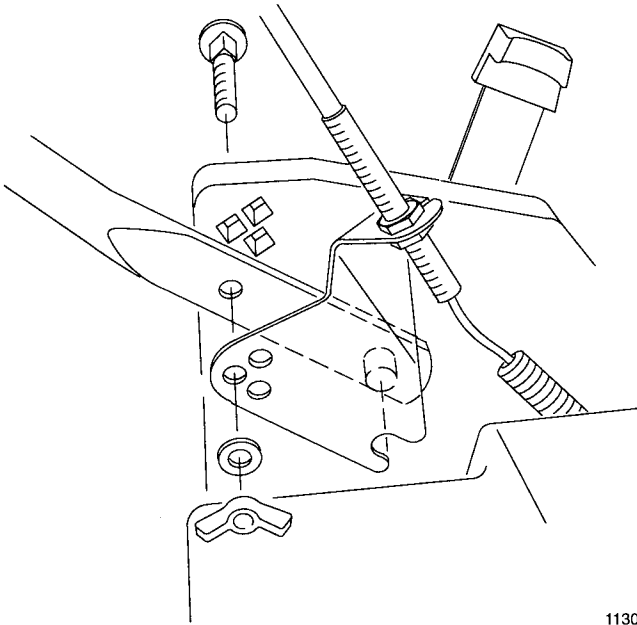

Figure 49
1. Remove handle mounting hardware from handle brackets (Fig. 49).